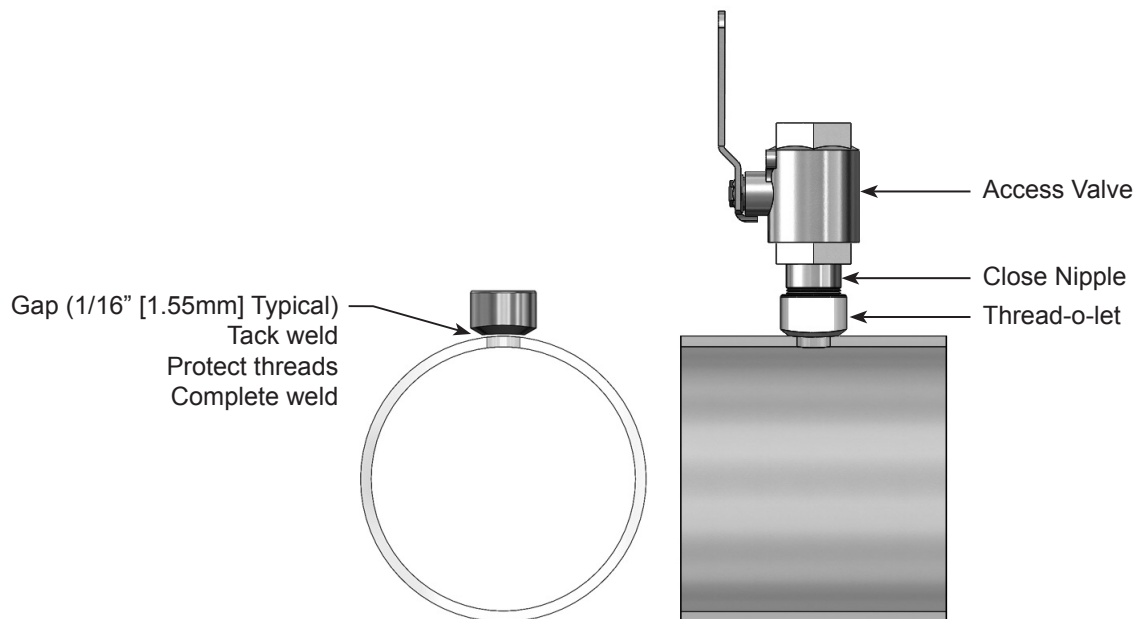

Figure 4. Weld Gap
- Using the appropriate pipe thread sealant, install close nipple and access valve. Orient the valve (Figure 4) such that for horizontal pipes the valve handle is in-line (perpendicular for vertical pipes) with the centerline of the pipe. Be sure the valve handle does not hit the pipe during opening and closing of the valve. Verify that the close nipple and access valve are properly tightened, because beyond this point, they will not be serviceable without depressurizing the line.